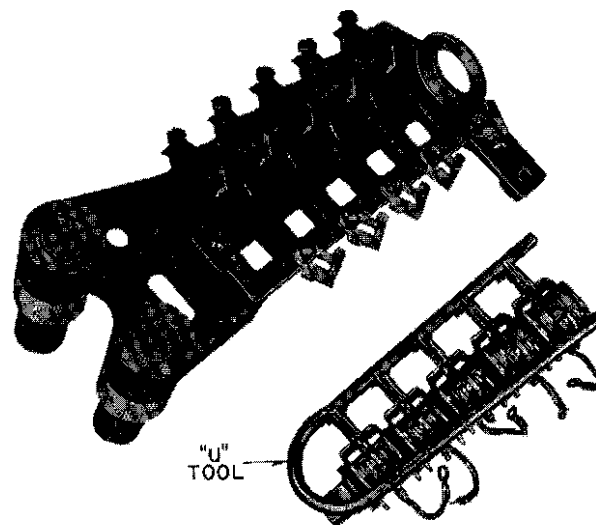

Fig. 7 - Installing Lever And Shaft Assembly
2. When installing complete lever and shaft assembly, use a "U" shape tool as shown in Fig. 7 to aid the installation of the assembly to the brush holder.